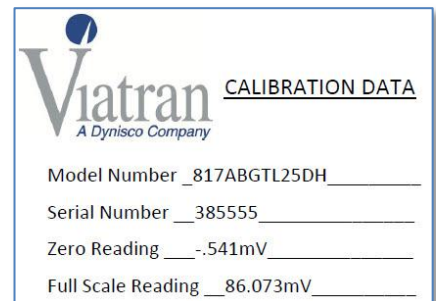

Figure 2: Calibration Document
- We find the Full Scale Reading (86.073 mV) on the calibration document, as shown in Figure 2.